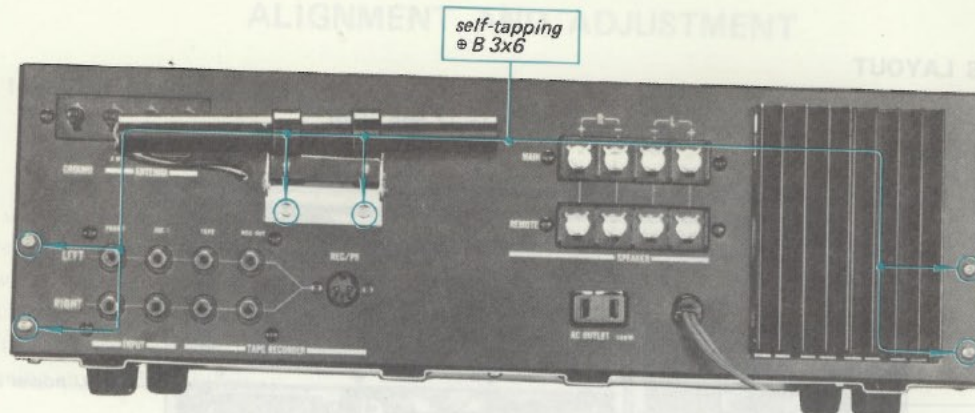

Fig. 2-16. Rear panel removal
4. Remove the six self-tapping screws (⊕ B 3×6), two of them secure the bar antenna holder to the chassis along with rear panel and others secure the rear panel to the chassis as shown in Fig. 2-16. This frees the rear panel.